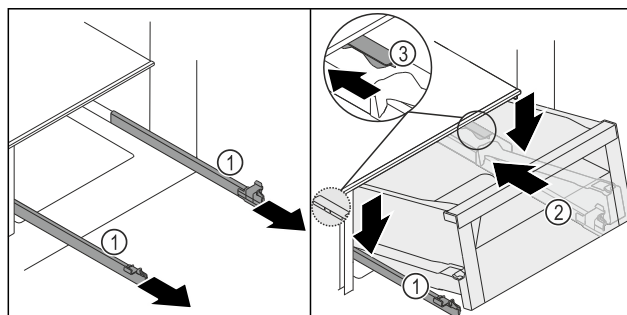
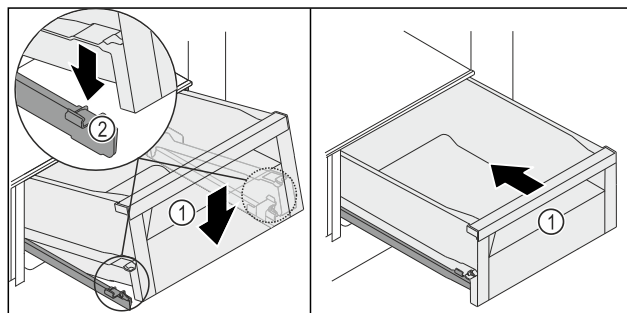

Fig. 171
Fig. 172
- Hold the rails Fig. 171 (1) firmly and place the drawer Fig. 171 (2) on the rails Fig. 171 (1) from above behind the stopper Fig. 171 (3).
- Slide the drawer Fig. 171 (2) backwards on the rails Fig. 171 (1) as far as it will go.
- Lower the drawer Fig. 171 (2) at the front so that the drawer slides into the clamp Fig. 172 (2) on the left and right.
- The drawer Fig. 172 (1) locks in audibly.
► Push in the drawer *Fig. 172 (1)*.